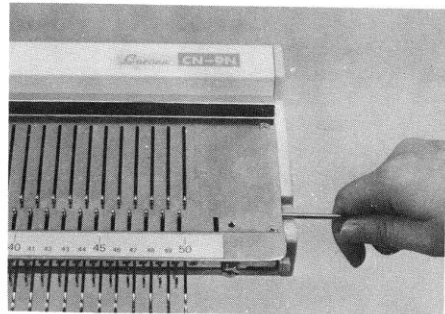
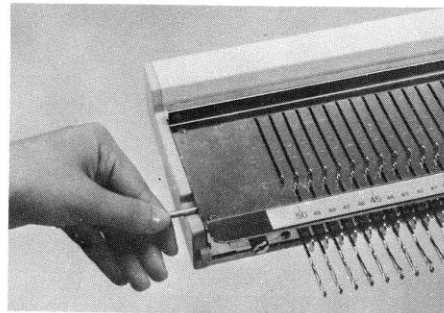

Fig.134
Fig.135
Bring forward into position (E) all the needles. (Fig.134)
At the end nearest to the needle to be changed, push in the rod with the blade of the screwdriver — see Fig.134— until an inch or so of the rod appears through the hole at the opposite end of the machine. (Fig.135)